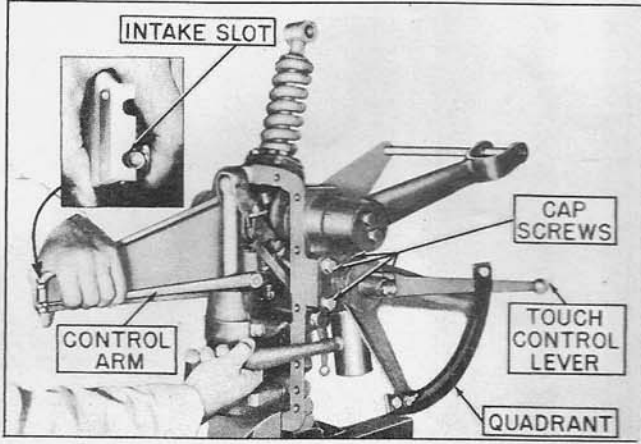

Figure 5
9. Loosen the four cap screws, see Figure 5, which hold the quadrant assembly.
10. Place the touch control lever in its full-up position as shown in Figure 5. Grasp the control arm as shown in the illustration exerting a pull of about four pounds, and strike the quadrant support plate with a soft face ham-